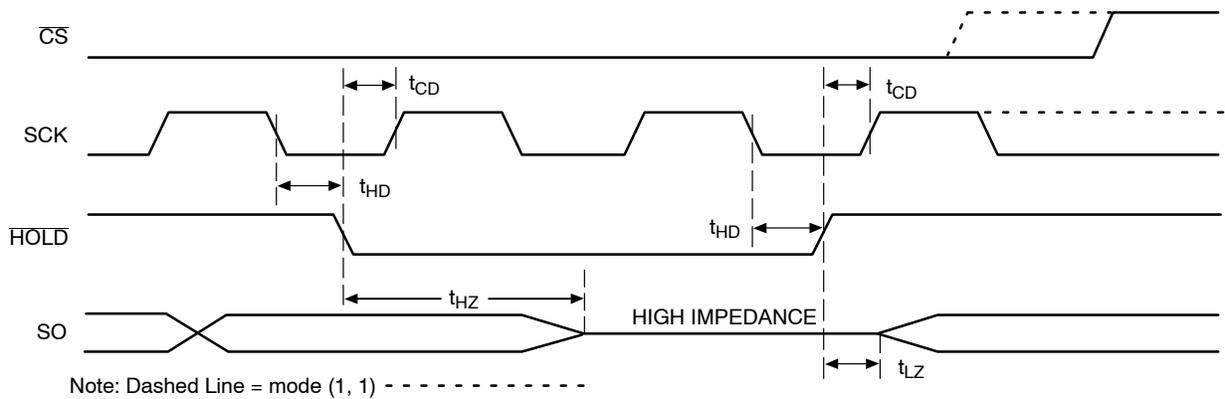

Figure 11. HOLD Timing
The $\overline{\text{HOLD}}$ input can be used to pause communication between host and CAV25M01. To pause, $\overline{\text{HOLD}}$ must be taken low while SCK is low (Figure 11). During the hold condition the device must remain selected ($\overline{\text{CS}}$ low). During the pause, the data output pin (SO) is tri-stated (high impedance) and SI transitions are ignored. To resume communication, $\overline{\text{HOLD}}$ must be taken high while SCK is low.